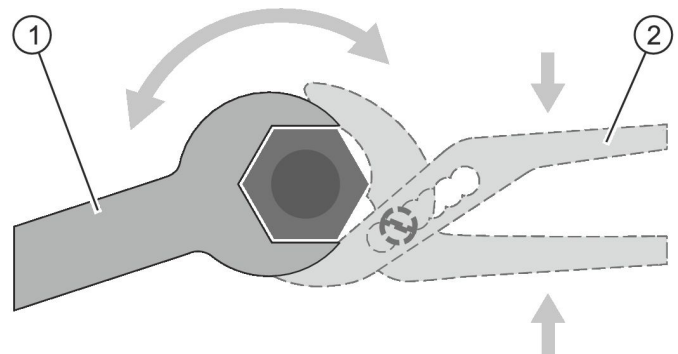

Fig. 31: Using water pump pliers to counter the tightening force
1. ▶ Hold the threaded pipe tail of the heat exchanger with water pump pliers ( Fig. 31 /2).
2. ▶ Hold the threaded pipe tail with the pliers while you use a spanner (hexagonal profile, Fig. 31 /1) to connect the heat exchanger to the pipework (pipework by others).